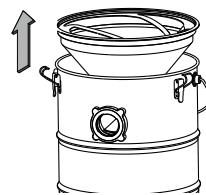

Fig 11
- Carefully remove the pre-filter from the container (Fig. 11).